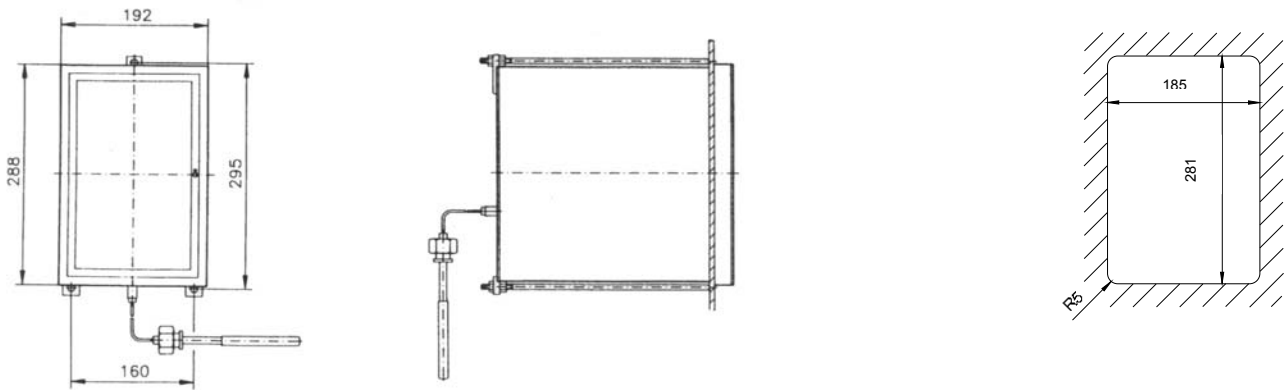

Figure 1 Single-continuous chart pen recorder for temperature measurement, type 230.01
Preparing wall openings according to figure 1 - 4
- Place three wall bolts M8 as spacing is specified (according to figures 1 - 4) and install the device.